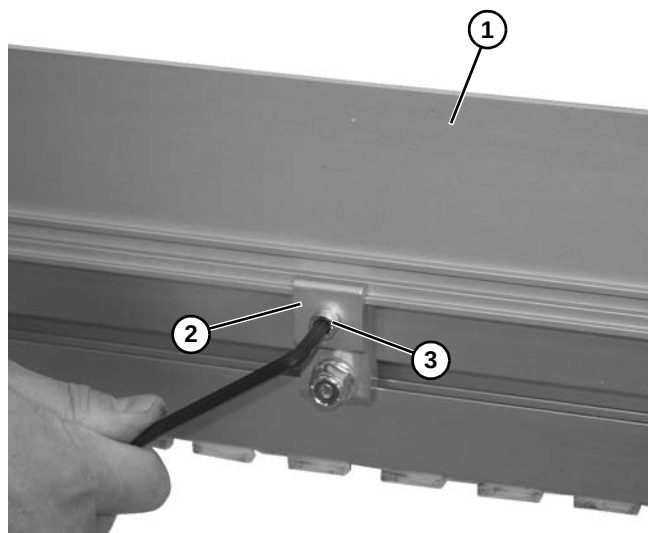

Figure 36
5. Install guide (**Figure 36, item 1**) and retaining clip (**Figure 36, item 2**) to conveyor side rail with socket head screw (**Figure 36, item 3**).